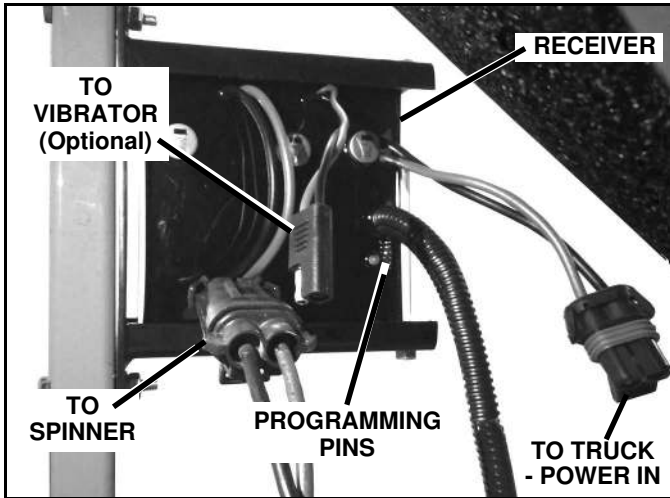

Figure 1-4
3. Slide the receiver into the bracket with the 6-Pin in circuit programming pins located vertically in the open end of the bracket. Secure the receiver with a 1/4" x 6" hex head cap screw and a 1/4" lock nut (See Figure 1-4).